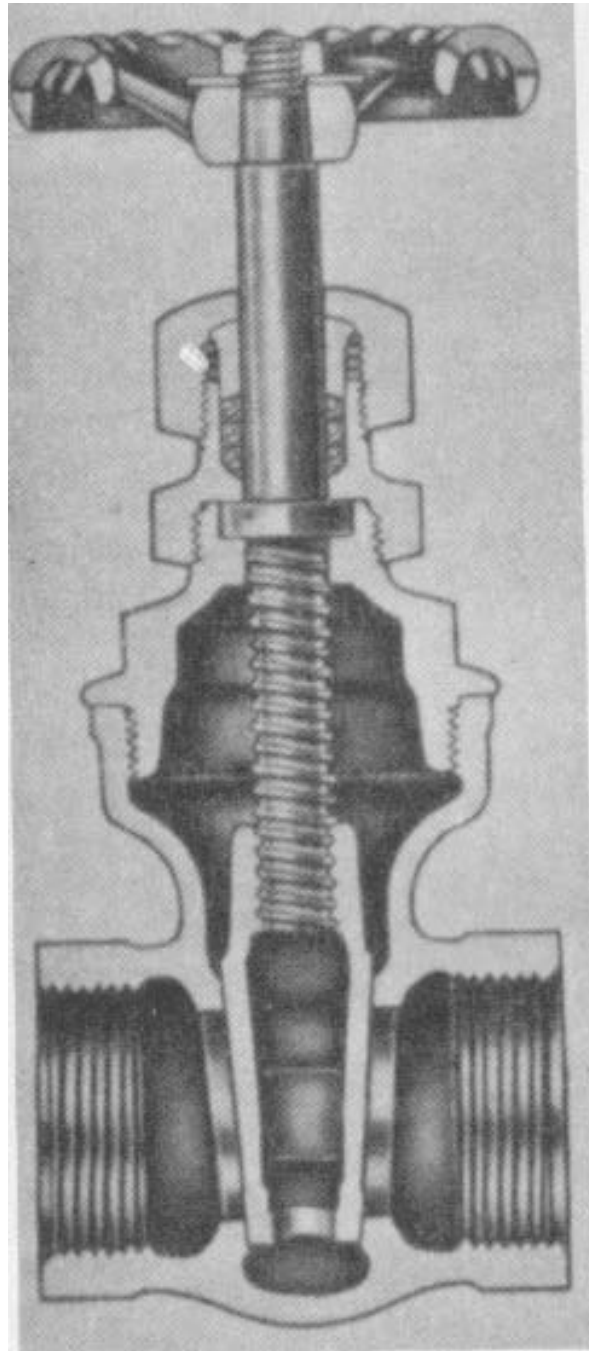

Figure 9. Receiver service valves.
(fig. 9)
- b. Open both receiver service valves (fig. 9).
- a. Close all service valves (figs. 9 and 10) and allow the engine to idle for a few minutes.
- e. Open all service valves (figs. 9 and 10) in order to empty the compressed air from the air receiver.